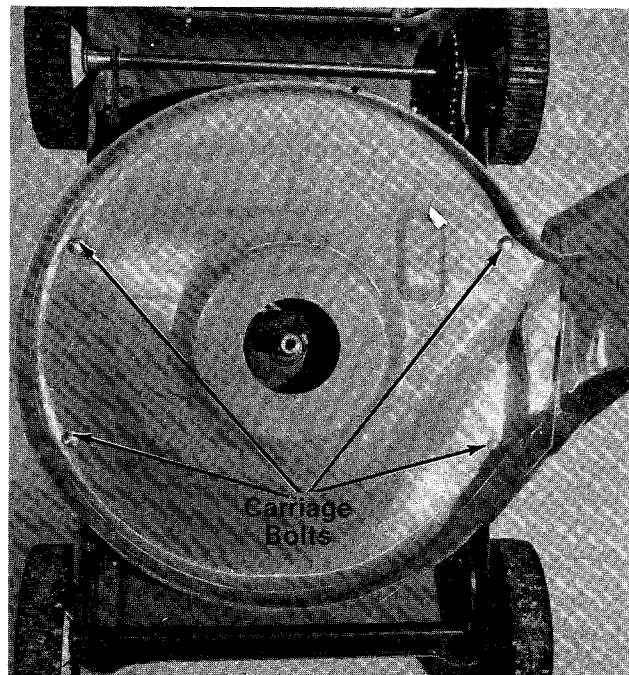

FIGURE 17.
4. Remove the four carriage bolts holding the lower deck to the frame. See figure 17.